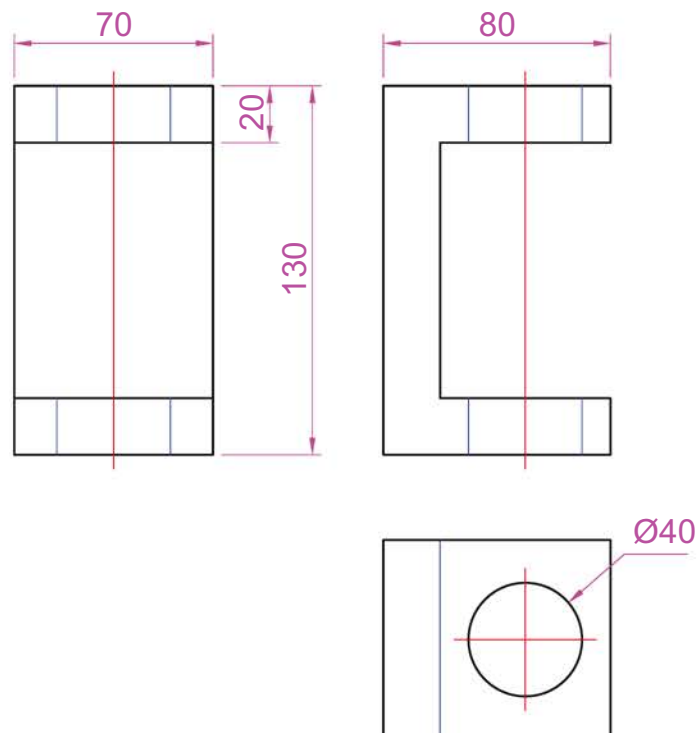
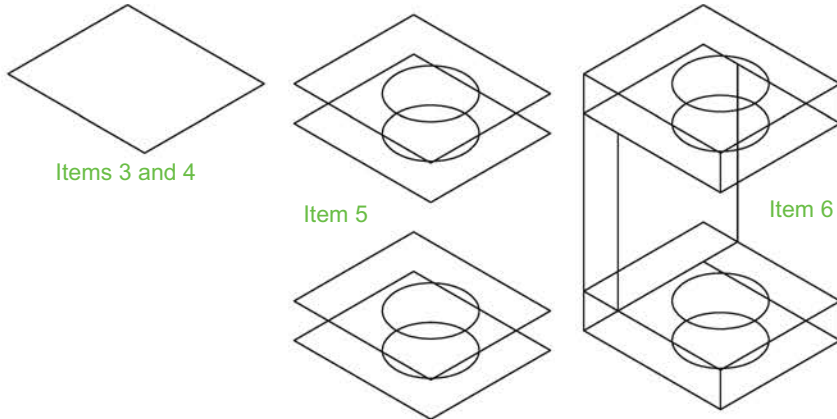

Fig. 8.20 First example – isometric drawing – the model
Fig. 8.21 First example – isometric drawing – items 3, 4, 5 and 6
1. This example is to construct an isometric drawing to the details given in the orthographic projection Fig. 8.20. Set **Snap** on (press the F9 function key) and **Grid** on (F7).
3. With **Line**, construct the outline of the top of the model (Fig. 8.21) working to the dimensions given in Fig. 8.20.
4. Call **Ellipse** tool, set to **isocircle** and add the isocircle of radius 20 centred in its correct position in the outline of the top (Fig. 8.21).
5. Set the isoplane to **Isoplane Right** and, with the **Copy** tool, copy the top with its ellipse vertically downwards three times (Fig. 8.21).
6. Add lines as shown in Fig. 8.21.